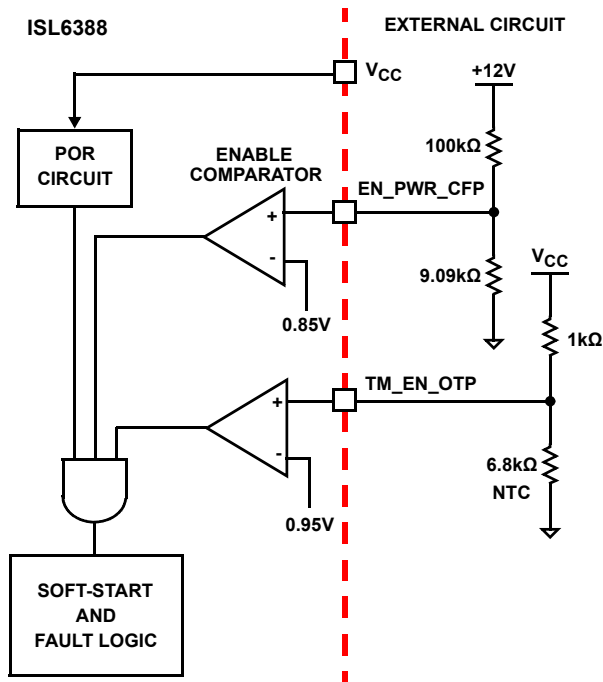

FIGURE 14. POWER SEQUENCING USING THRESHOLD-SENSITIVE ENABLE (EN) FUNCTION
2. The ISL6388 features an enable input (EN\_PWR\_CFP) for power sequencing between the controller bias voltage and another voltage rail. The enable comparator holds the ISL6388 in shutdown until the voltage at EN\_PWR\_CFP rises above 0.85V. The enable comparator has about 100mV of hysteresis to prevent bounce. It is important that the drivers reach their POR level before the ISL6388 becomes enabled. The schematic in Figure 14 demonstrates sequencing the ISL6388 with ISL99140 DrMOS and the ISL66xx family of Intersil MOSFET drivers.